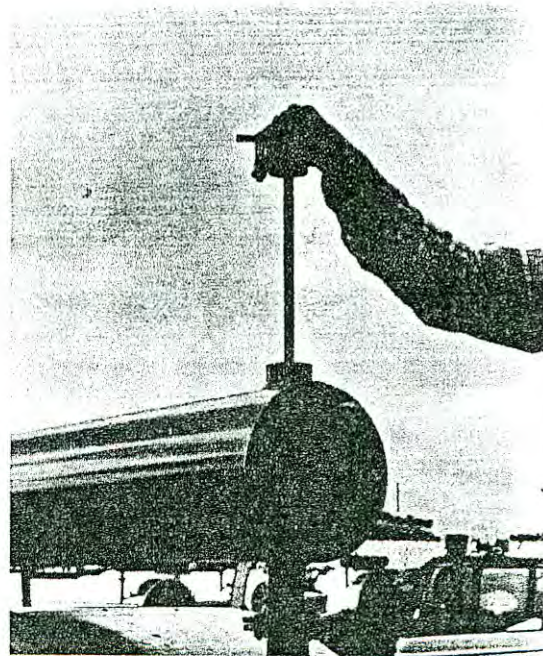

FIGURE 4 — Checking Heat Transfer Oil Supply
5. Check heat transfer oil supply, refer to figure 4. Check heat transfer oil level at ambient temperature with machine leveled. Oil should be at full mark at 70° F. **DO NOT OVERFILL** or spillage will occur when machine reaches operating temperature.